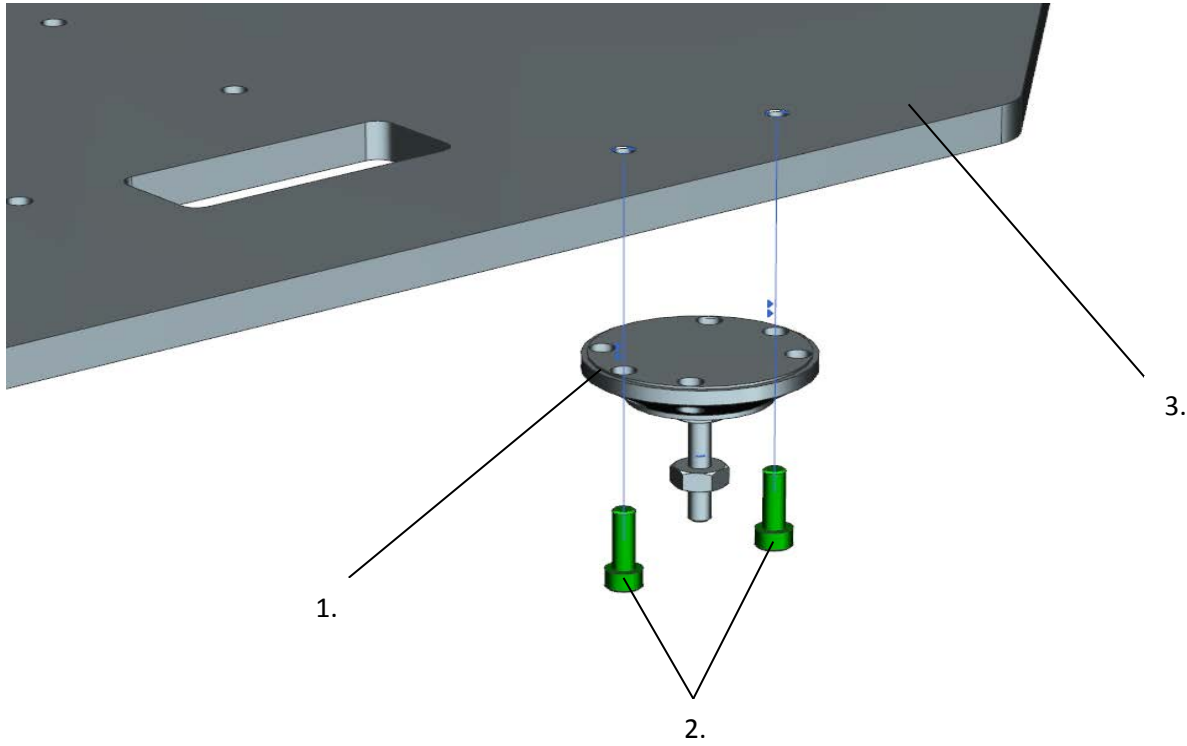

Figure 2
1. Drill 2 x diameter 6.80mm holes through the base plate and tap M8 through (Fig 2); a technical drawing for the positioning of these holes can be requested from Carnaud Metalbox Engineering.
3. Fit 2 x M8 bolts attaching the top foot to the machine base plate, as shown in Fig. 2.